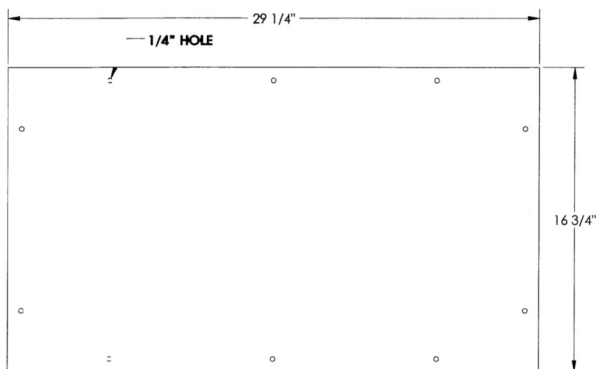

Figure 16. Shelf
- Cut the material to 29-1/4" x 16-3/4" as shown in Figure 16.